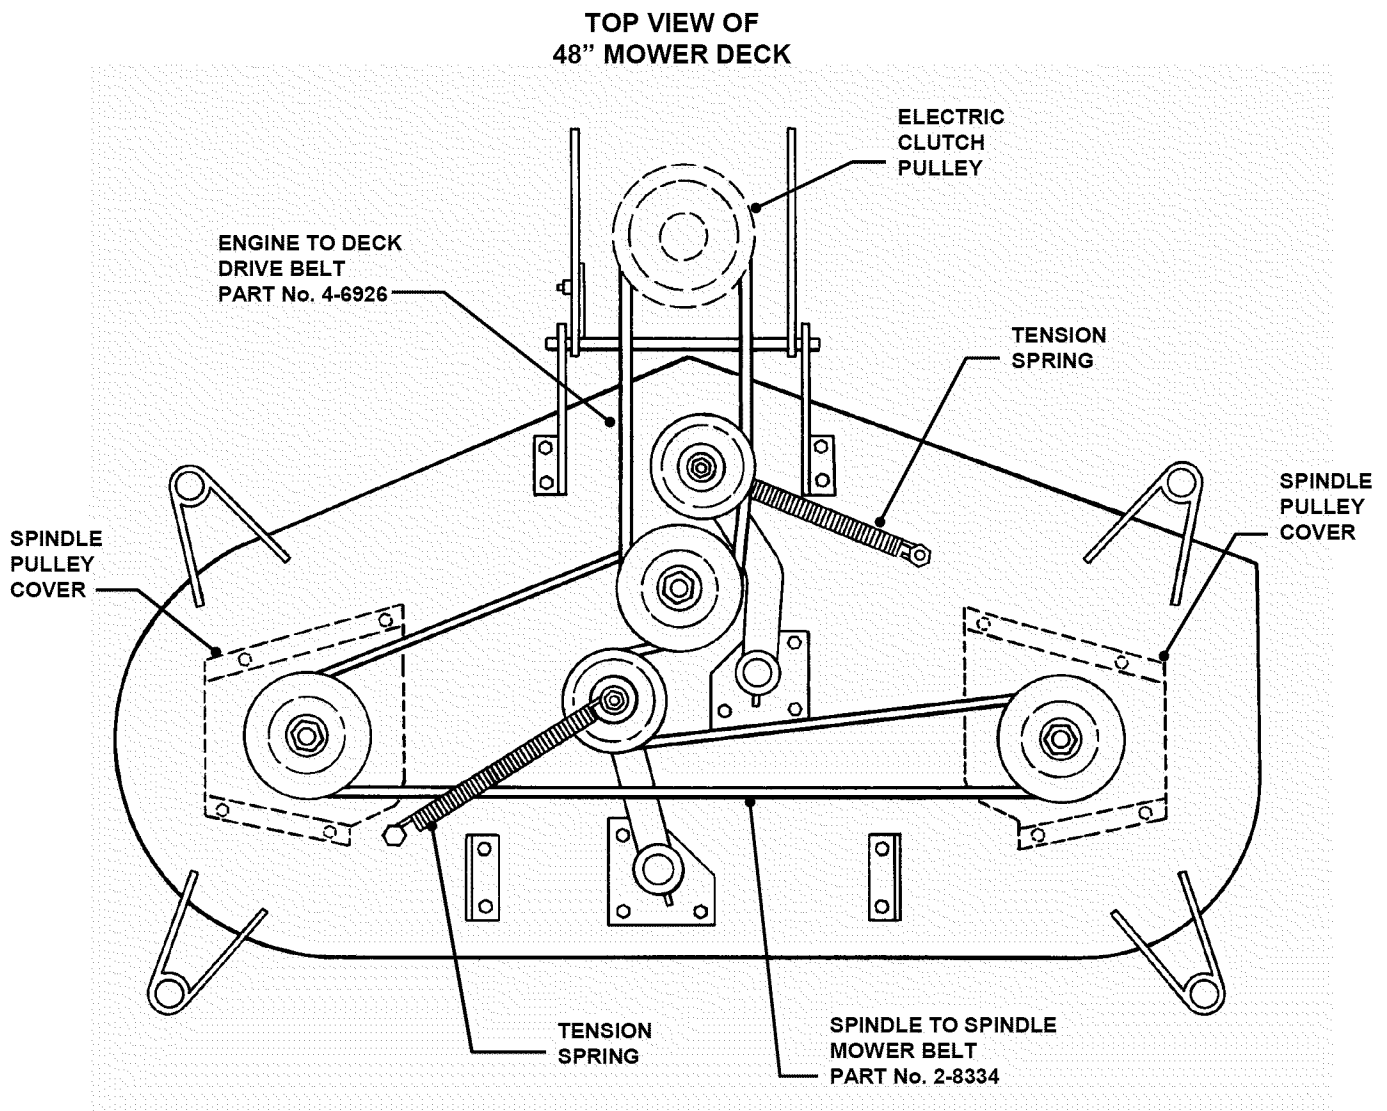

FIGURE 4.36
4. Remove deck idler tension spring. Remove nuts that secure the spindle pulley covers. See Figure 4.36.